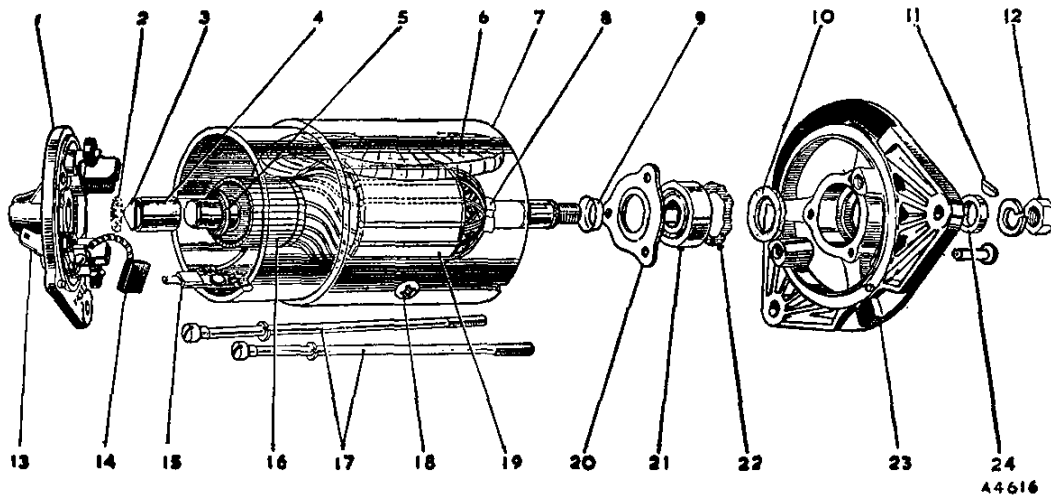

Fig. N.1
- (11) Mark the position of the pole-shoes relative to the yoke.
- (12) Withdraw the pole-shoe securing screws (Fig. N.1), draw the shoes and coils from the yoke and remove the coils from the shoes.
- (13) Fit new coils to the shoes and refit them to the yoke with the shoes in their original positions. Refit the insulating piece at the junction of the coil windings, insert the screws, press the shoes in place with an expander, and tighten the screws (Fig. N.1).